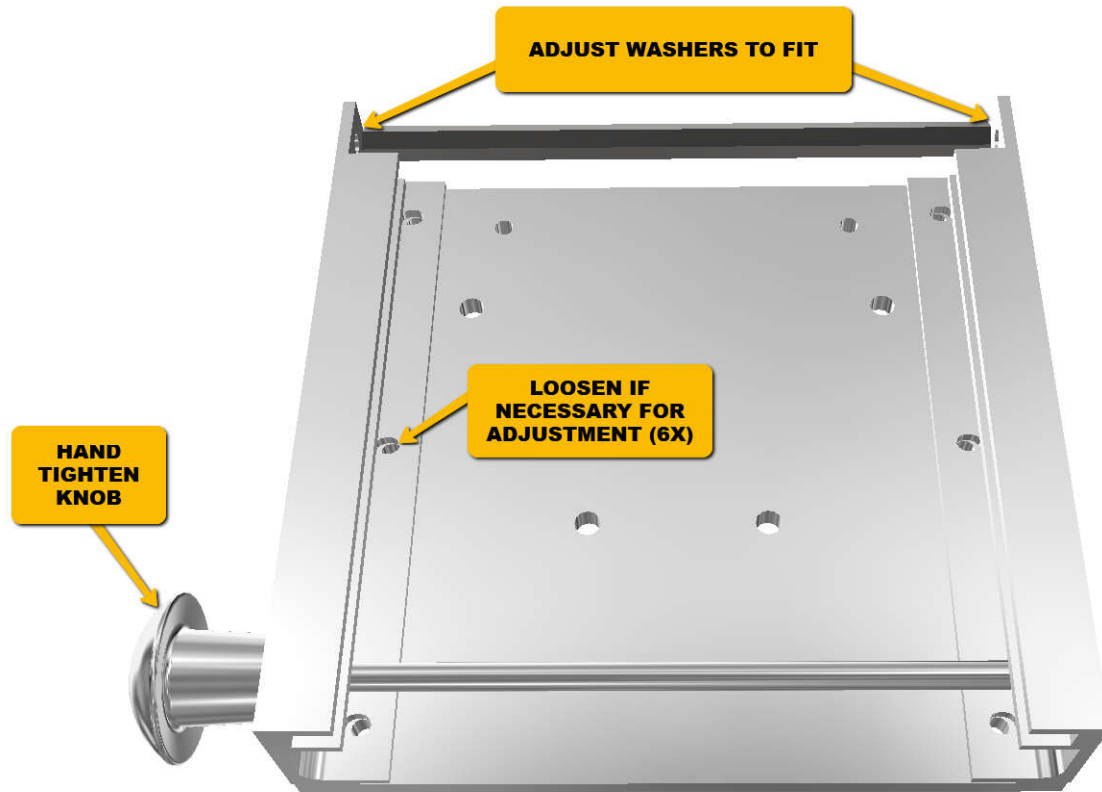

Figure 1 - 206IR-2145-(X) Mount Assembly
Referencing installation drawing C182IR-100, or C206IR-100, install the sensor adaptor plate (SX5-606-(X)) to check fit with the IR-1040-(X) mount. There should be just enough movement to easily slide the plate into the mount with some resistance before full engagement. Referencing C182IR-100, or C206IR-100 installation drawing instructions as applicable and Figure 1, engage lock shaft and tighten knob by hand to clamp up on adaptor plate. This should remove any lateral play between the mount assembly and the adaptor plate. Complete installation per C182IR-100 or C206IR-100 drawing instructions as applicable. If the plate still has movement reference Figure 1 and adjust fit as follows:
1. Loosen the six (6) screws of the support angles enough to allow movement. The angles are slotted to permit adjustment.
2. Loosen the two (2) AN3 bolts of the mount stop at the aft end of the mount.
4. Tighten the angle attachment screws and mount stop bolts. Only if necessary, should spacer washers (NAS1149F0332P) be removed from the mount stop to obtain a snug fit when the adaptor plate is fully engaged. Maximum number of washers is two (2) per side.